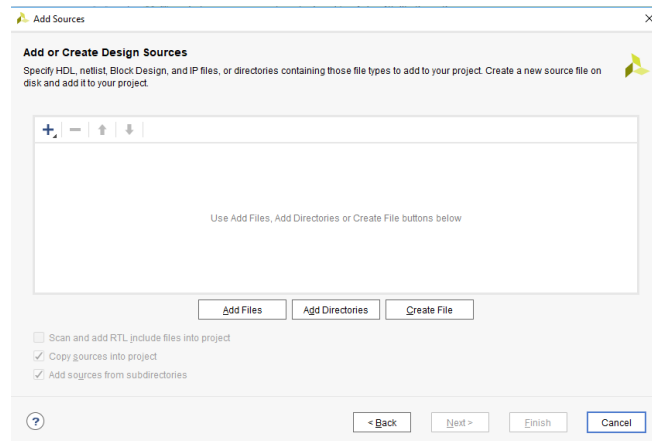

Figure 12: Add source file
2. The "Add or Create Design Sources" will appear. You can add existing source files or create new ones. For this tutorial, we will be creating the HDL source files. In the dialog box, select "Create File" (see Fig. 12).